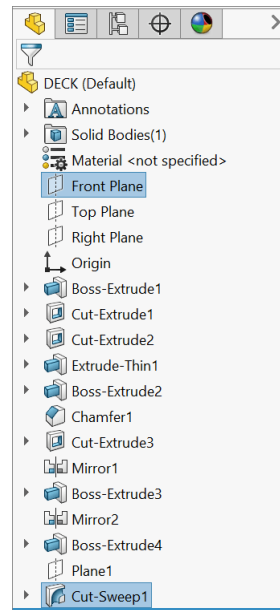

Fig. 94
Step 1. Ctrl click **Front Plane** and **Cut-Sweep1** feature to select Plane and feature, **Fig. 94**.